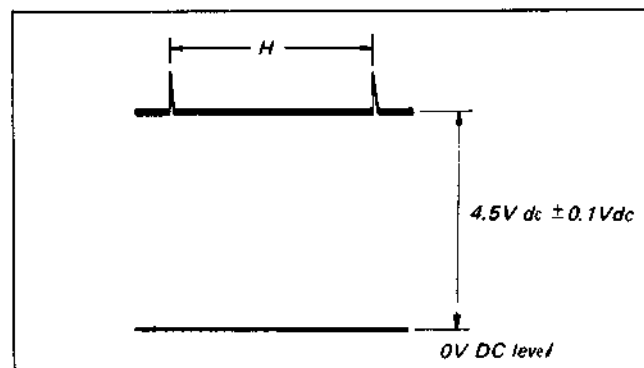

Fig. 5-19. AFC adjustment
- ii) Adjust to $4.5 \pm 0.1 \text{ V}$ dc using RV007. (See Fig. 5-19.)